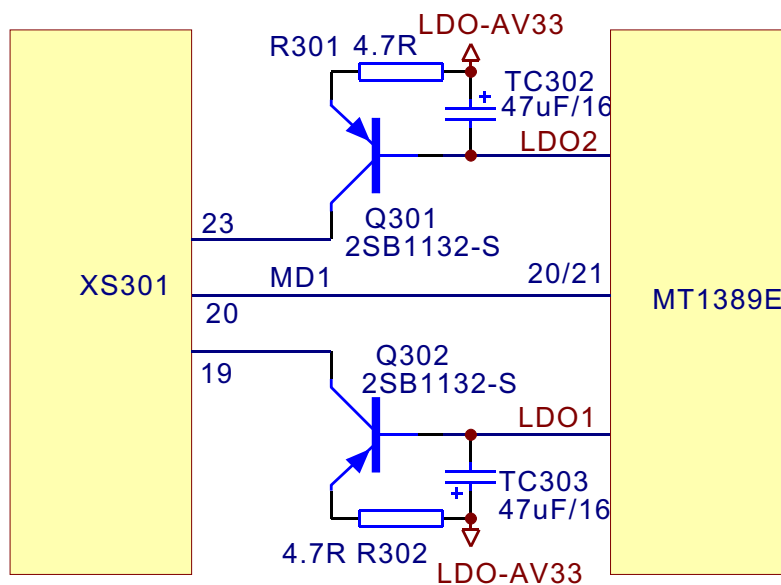

Figure 3.2.4.1 Laser power control circuit diagram
1. Laser power control circuit is shown as in the following figure 3.2.4.1: